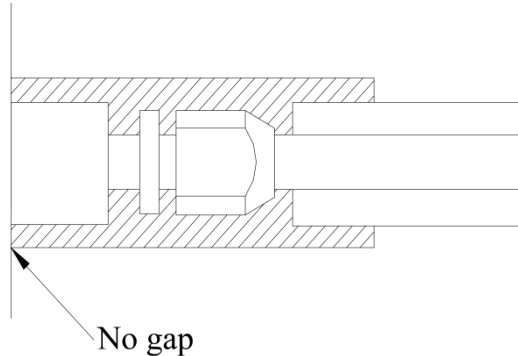

Fig.19
b. The joints of the indoor unit should be wrapped with the insulating material and no gas is allowed on the joint of the indoor unit, as shown in Fig.19.